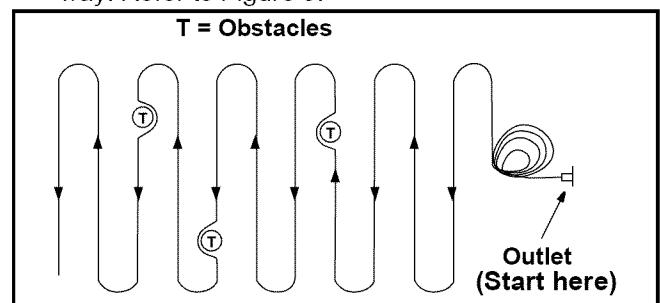

Figure 9
- Always start from the **point closest to the power source** where the cord is connected. Never mow around the lawn in circles; travel back and forth across the lawn, starting from the point closest to the outlet and then moving away from the outlet so the cord lies in the cut portion of the lawn, out of the way. Refer to Figure 9.